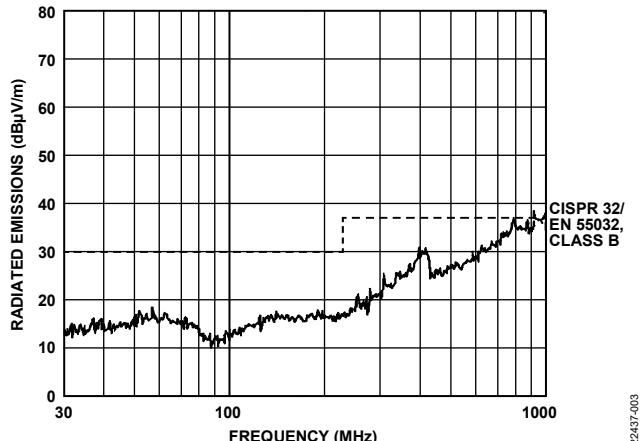
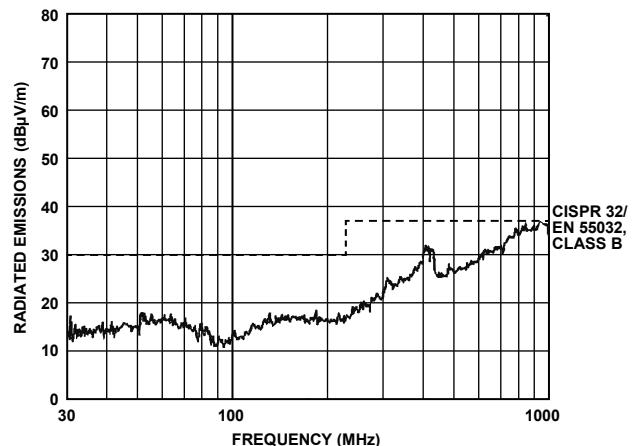

Figure 4. Peak Horizontal Scan from 30 MHz to 1 GHz with 100 mA, 5 V Output, 0 Mbps Signals on Channel A, Channel B, Channel C, and Channel D
Figure 5. Peak Horizontal Scan from 30 MHz to 1 GHz with 50 mA, 5 V Output, and 5 Mbps Signals on Channel A, Channel B, Channel C, and Channel D
The ADuM6420A/ADuM6421A/ADuM6422A devices provide regulated, isolated power that meets CISPR 32/EN 55032, Class B limits at full load on a 2-layer printed circuit board (PCB) with ferrite beads. Radiated emissions test plots of the EVAL-ADUM6421ARNZ/EVAL-ADUM6421AURNZ are provided in Figure 4 and Figure 5. All devices in the family include the same isolated dc-to-dc converter and are differentiated by directional digital channel configurations.
Measurements carried out according to the CISPR 32/EN 55032, Class B standard in a 10 meter semianechoic chamber from 30 MHz to 1 GHz are shown in Figure 4 and Figure 5. Figure 4 shows the results of the peak horizontal scan (the worst case) from 30 MHz to 1 GHz with 100 mA, 5 V output. Figure 5 shows the results of the peak horizontal scan (the worst case) from 30 MHz to 1 GHz with 50 mA, 5 V output, and 5 Mbps signal on Channel A, Channel B, Channel C, and Channel D. Table 1 shows the tabulated quasi peak (QP) results. These results show that the ADuM6420A/ADuM6421A/ADuM6422A emissions are below CISPR 32/EN 55032, Class B limits when tested on a 2-layer PCB with the use of ferrite beads. When tested with 5 V supplies, a 100 mA load, and a data rate of 0 Mbps on Channel A, Channel B, Channel C, and Channel D, the quasi peak margin limit is $-3.6 \text{ dB}\mu\text{V/m}$. When tested with 5 V supplies, a 50 mA load, and a data rate of 5 Mbps on Channel A, Channel B, Channel C, and Channel D, the quasi peak margin limit is $-6.0 \text{ dB}\mu\text{V/m}$.